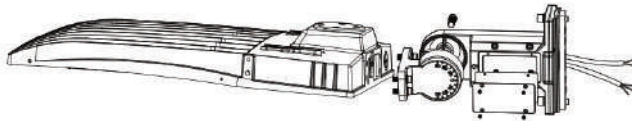

Figure 9
Step 1: Remove the bracket mounting screws on the fixture, open the side lid of bracket and run the wires through the bracket. (Figure 9)